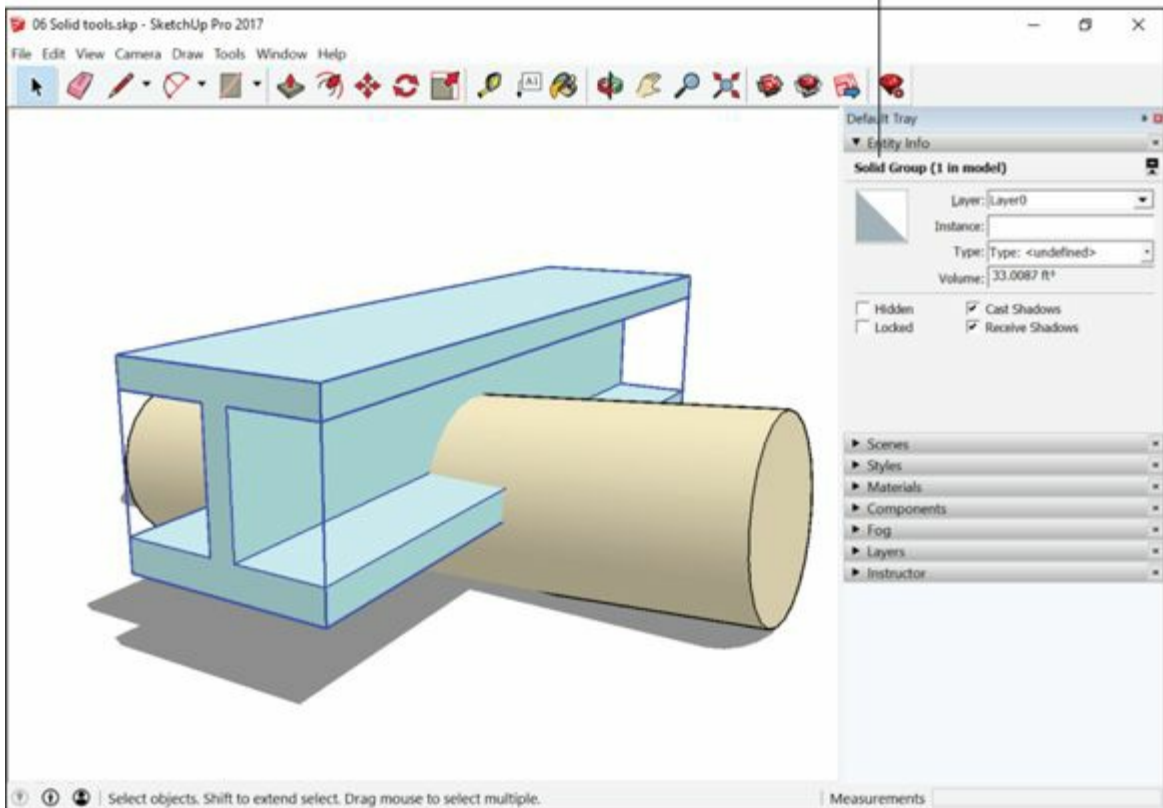

FIGURE 6-26: Check the Entity Info panel to see whether your selection is a solid.
- » **Check Entity Info to see if your object is a solid.** The easiest way to tell whether a group or component is a solid is to select it and choose Window ⇒ Entity Info. If it's solid, this panel will say either "Solid Group" or "Solid Component." Figure 6-26 shows you where to look.
- » **Solids have volumes.** Manually calculating the volume of a simple shape like a rectangular box is straightforward, but try it for anything more complicated and you'll see why the Volume readout in Entity Info is so great. Figure 6-26 shows where to look.